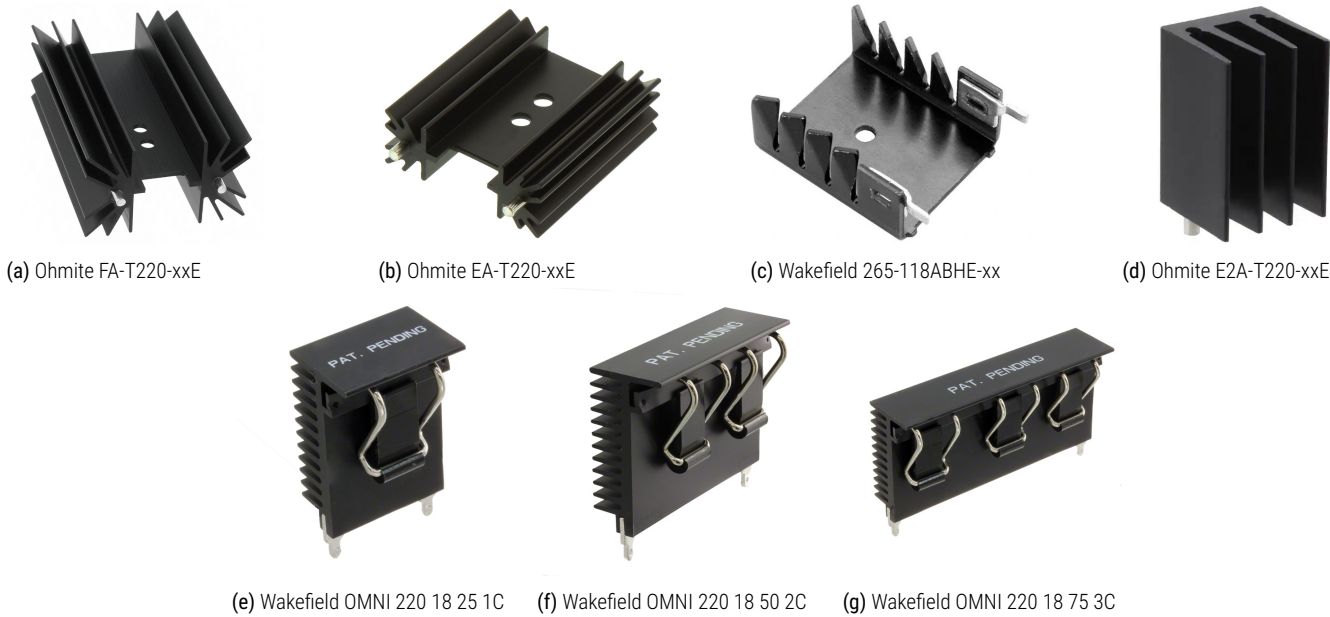

Figure 9 The available heatsinks.
- Based on b), choose a heatsink from the selection provided in Table 6, they are also presented graphically in Fig. 9 (all images from the manufacturer websites). Elaborate briefly on your choice. Don't forget to highlight your selection in **blue**.